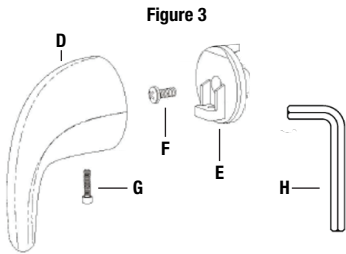

Figure 3
3. Remove the Allen head shoulder screw (G) from the old metal handle (D) with the provided Allen wrench (H) and remove handle (Fig. 3). Discard old handle and screw.